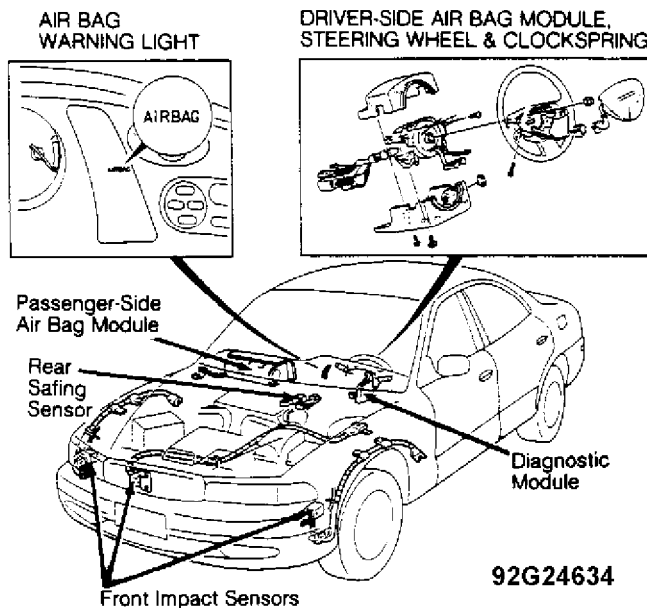

Fig. 1: Locating Air Bag System Components
Air bag restraint system consists of a driver-side air bag module, passenger-side air bag module, clockspring, diagnostic module, rear safing sensor, 3 front impact (crash) sensors, an AIR BAG warning light and wiring harnesses. See Fig. 1.
Obtain radio code number from customer, and deactivate audio anti-theft function. Turn ignition off. Disconnect and shield negative battery cable. Disconnect harness connectors from diagnostic module, located behind left side of instrument panel. See Figs. 1 and 2. Connect Short Circuit Connectors (49-H066-004) to diagnostic module harness connectors.
2) Clockspring is located under steering wheel, on steering column. See Fig. 1. Remove driver-side air bag module. See AIR BAG MODULE under REMOVAL & INSTALLATION. Remove steering wheel nut. Remove steering wheel using steering wheel puller. Remove steering column covers. Remove screws. Remove clockspring and combination switch as an assembly.